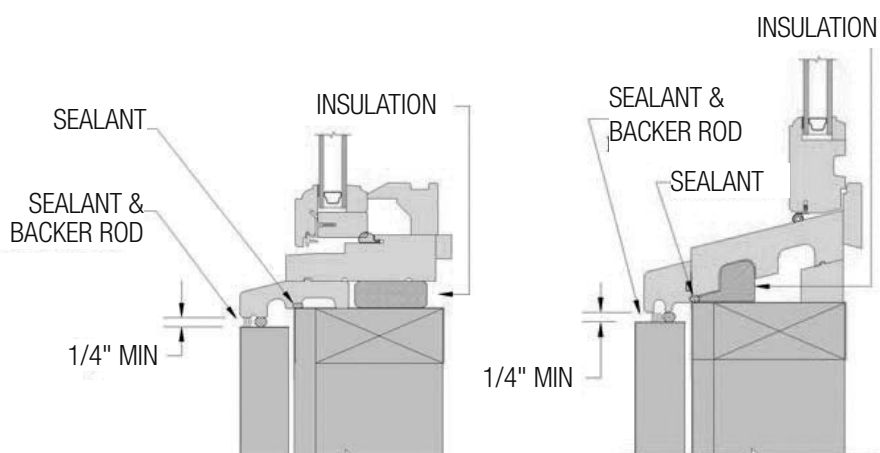

FIG. 17: CASEMENT SILL
- A) After siding or wall exterior is complete, apply backer rod and silicone sealant between the exterior window casing and siding material on both sides and sill. (Fig. 17, 18 & 19)